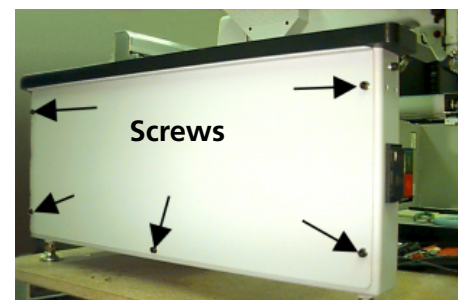

Figure 1-7
2. Remove the side covers; there are 5 screws holding each side cover in place (see Figure 1-7). Use the Philips screw driver included in the operator kit to remove the screws.